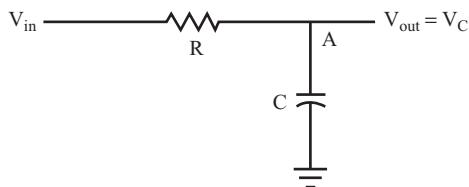
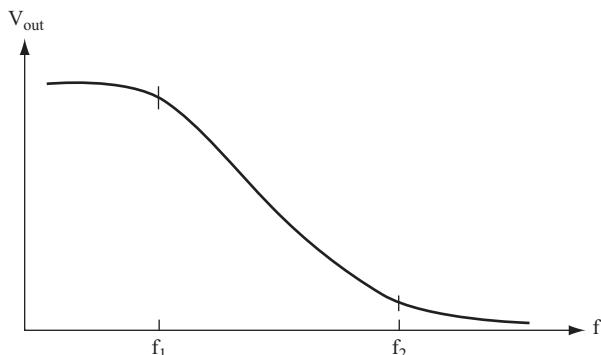
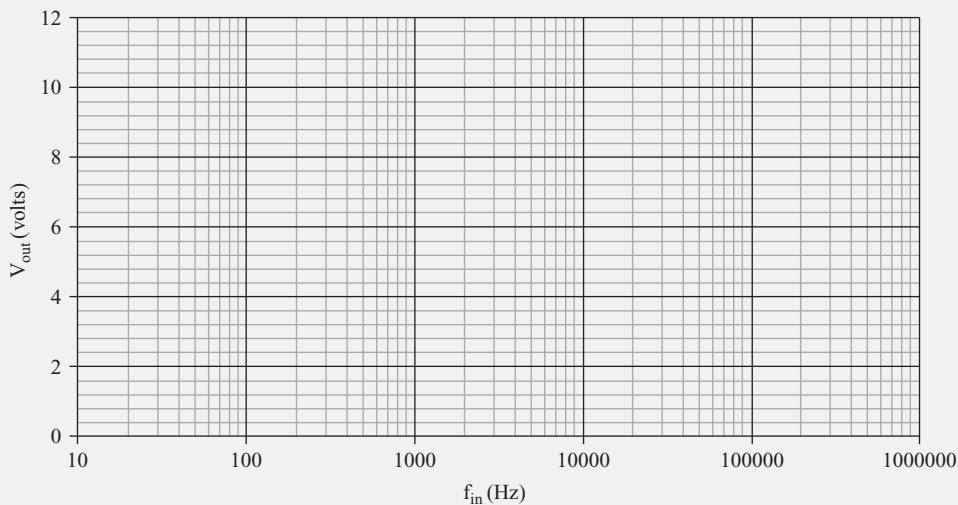

FIGURE 6.17
FIGURE 6.18
FIGURE 6.20
- 15** The circuit shown in Figure 6.17 is used in many electronic devices.
The impedance of this circuit is the same as that of the circuit used in the last few problems. It still behaves like a voltage divider, and you can calculate the output voltage with an equation similar to the one you used for the high-pass filter circuit discussed in the last few problems. However, by switching the positions of the resistor and capacitor to create the circuit shown in Figure 6.17, you switch which frequencies will be attenuated, and which will not be attenuated, making the new circuit a low-pass filter, whose characteristics you explore in the next few problems.
16 Refer to the circuit shown in Figure 6.17 and the following values:
- 17** Again, refer to the circuit shown in Figure 6.17 to answer the following question.
- 19** V_{out} of the circuit shown in Figure 6.17 changes as the frequency of the input signal changes. Figure 6.18 shows the graph of V_{out} versus frequency for this circuit.
NOTE You can see in Figure 6.18 that V_{out} is large for the lowest frequency and nearly zero for the highest frequency. This type of circuit is called a *low-pass filter* because it will pass low frequency signals with little attenuation, while blocking high-frequency signals.
9. In the blank graph shown in Figure 6.20, plot V_{out} versus f_{in} with the voltage on the vertical axis and the frequency on the X axis. The curve should have the same shape as the curve shown in Figure 6.18.